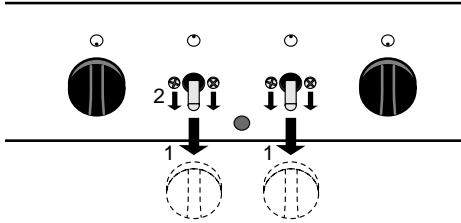

fig. 11
1. Remove the middle control knobs of the dashboard by pulling them towards you (see fig. 11, 1).
2. Remove the screws (see fig. 11, 2), in order to detach the cardan holders and the attachment plate.